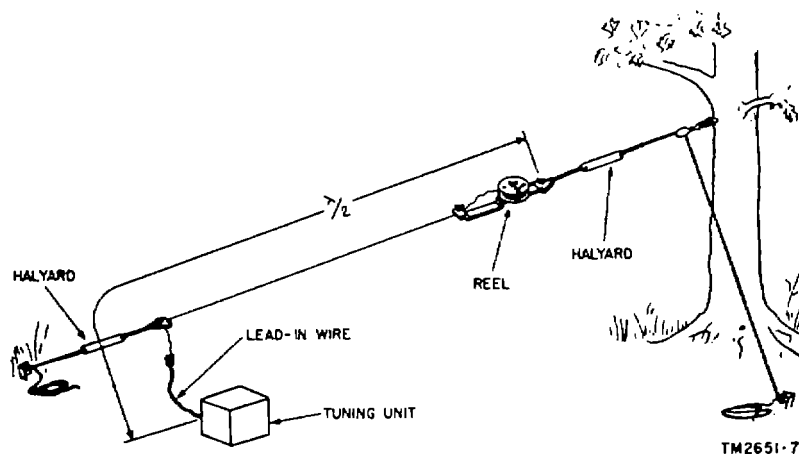

Figure 6. Slanting wire antenna.
- (a) If the station is located in a clearing, a slanting wire can be used as an antenna by attaching one end to the 40-foot mast or to a tall tree (fig. 6). If the operating frequency is relatively low, a comparatively long antenna must be used. (Frequencies lower than 3.1 mc require the use of two reel assemblies.) Since a slanting wire antenna longer than 100 feet introduces excessive sag, height must be sacrificed. Therefore, it is advisable to use this antenna with operating frequencies not less than 4.5 mc.